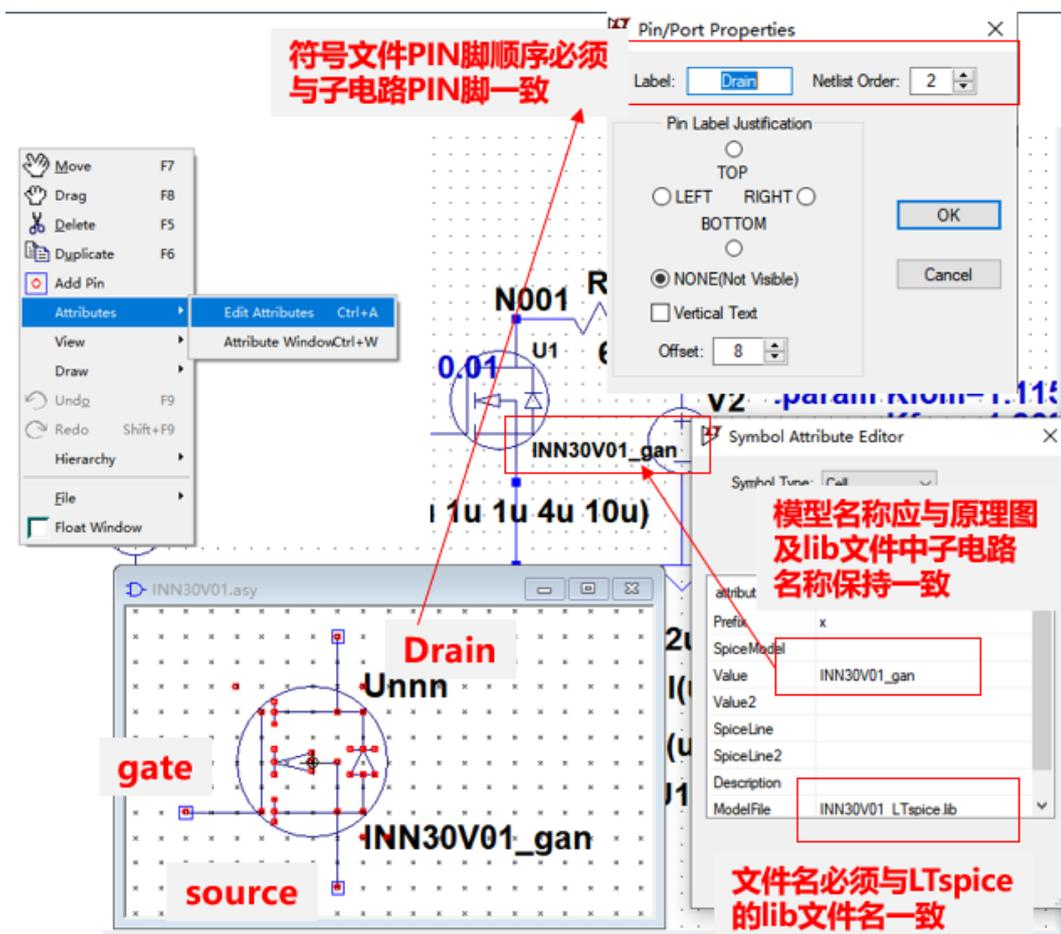
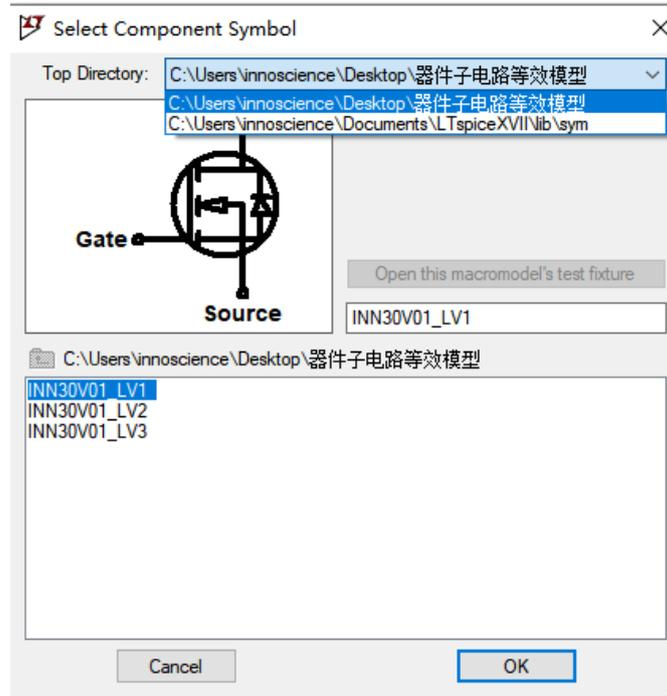

Fig.4. \*.lib and \*.asy file association
Fig.5. Add the InnoGaN model to the schematic
2. **Associate with \*.asy files.** Open the \*.asy file and press the shortcut key Ctrl+A to pop up the dialog box shown in Figure 4.
3. **Add InnoGaN model to the schematic.** Generally, InnoGaN provides the associated \*.lib and \*.asy files, and step 1/2 can be omitted. After the association, click the component button in the toolbar on the schematic editing interface as shown in the figure 4, or press the shortcut key F2, and a pop-up is shown as shown in the figure. Select the InnoGaN model save path in the Top Directory drop-down box, and select the desired device name in the device selection window, as shown in Figure 5.